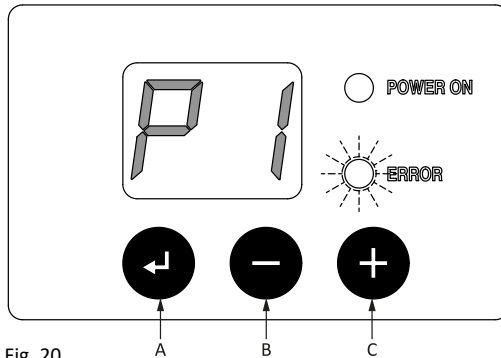

Fig. 20
- 2 P1 will be displayed, and the red Error light will slowly flash. See Fig. 20.